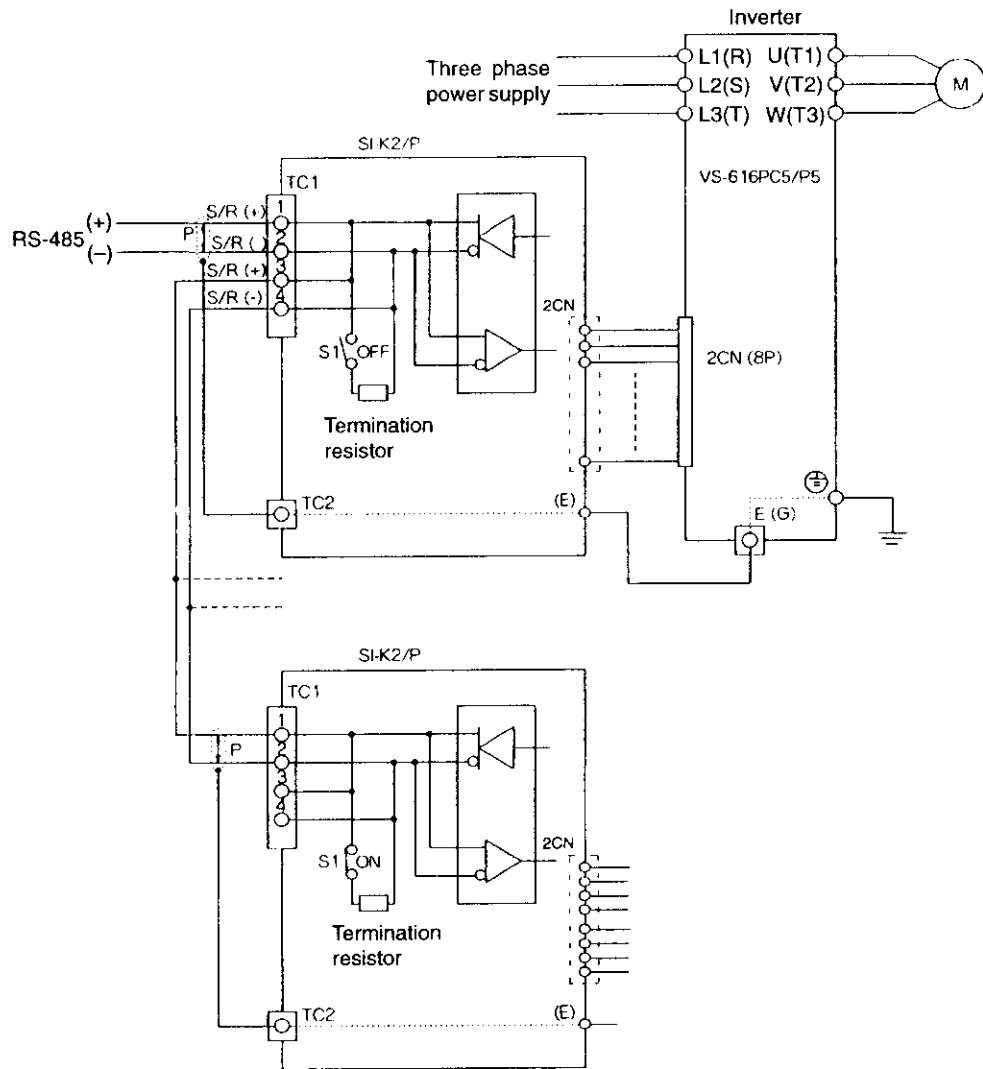

Fig. 3 Interconnection diagram
Fig. 3 shows interconnection between the inverter, SI-K2/P, and peripheral equipment.
- To prevent noise, use shielded wire in the specified area in Fig.3 and separate from heavy current circuits (200VAC or greater) or relay drive circuits.
- Connect the grounding lead wire (E) to pin ⑫ of the control board of the inverter.